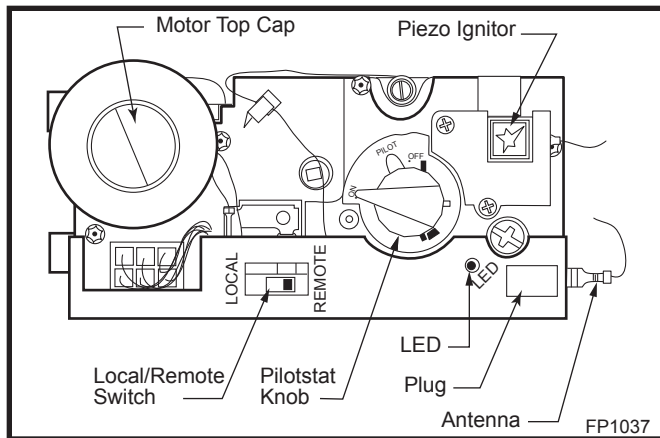

Fig. 56 Comfort control valve.
1. If the manual switch is in remote position, switch it to LOCAL. (Fig. 56)
2. Remove and replace plug on lower right hand side of the valve; Red for LP and Blue for NG. (Page 32, Fig. 56)